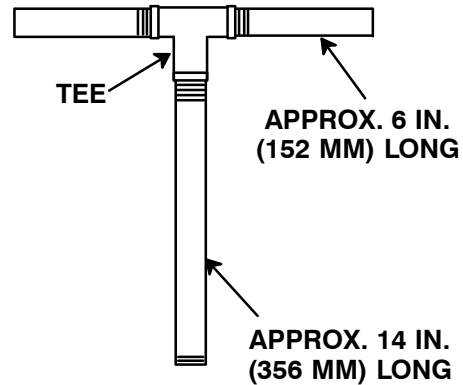

Figure 4. Rotating Assembly Tool
*iron) and a standard tee (see Figure 4). All threads are 1/2-inch NPT. **Do not pre-assemble the tool.***